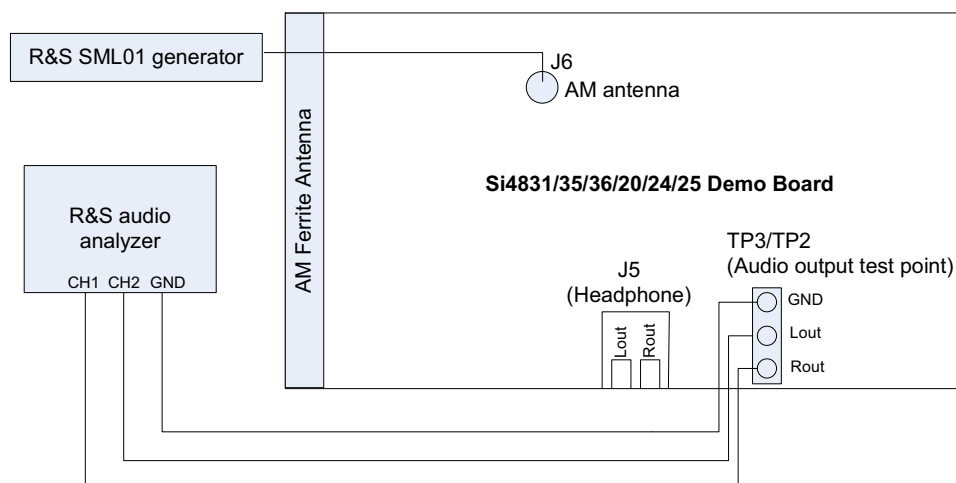
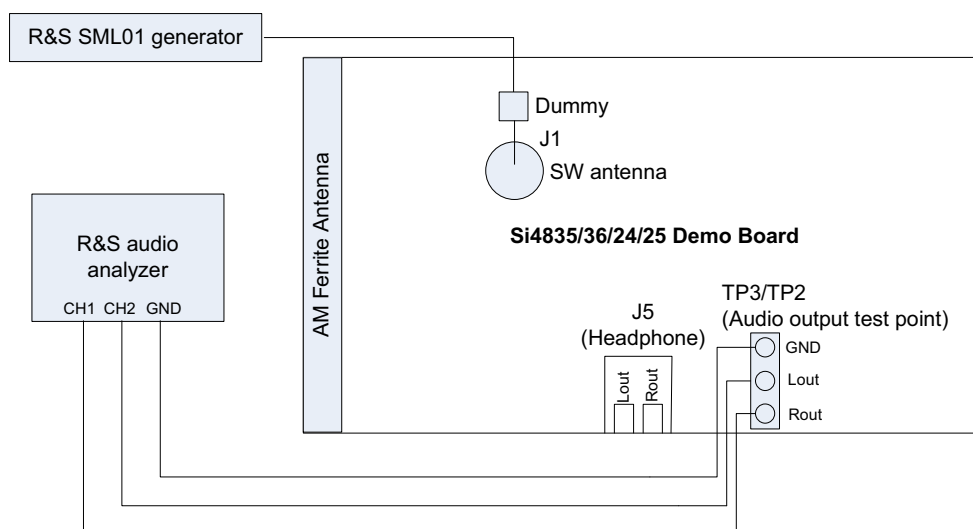

Figure 3. AM Tuner Setup with One Generator
Figure 6. SW Tuner Setup with One Generator
1. Connect test equipment as shown in Figure 3 or Figure 6.
1. Connect test equipment as shown in Figures 3 or 6.